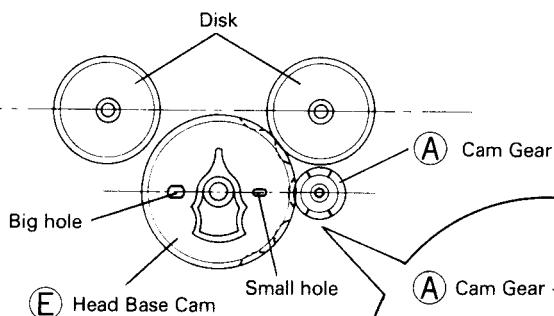

Fig. 6-14
- c) When putting back the head base cam ⓕ, pay careful attention to positioning it so that big and small concaves are paralleled with the disk. (Fig. 6-14)